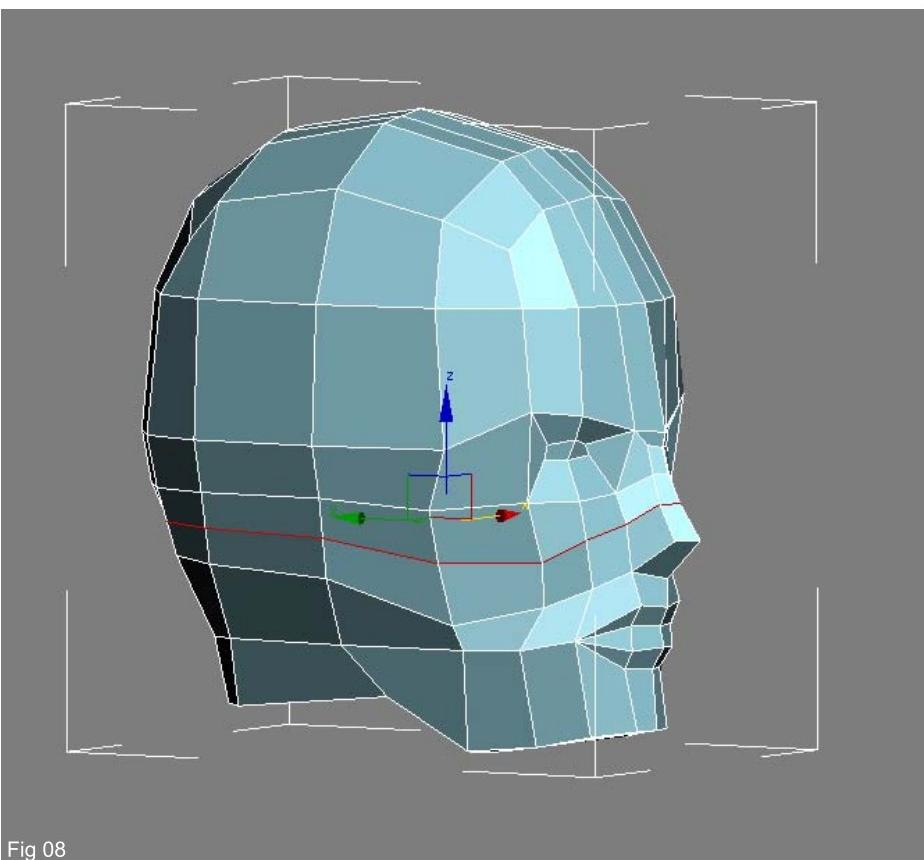

Fig 08
8. To help refine the cheek bone and nose shape use the "Ring / Connect" tools to add in a further cut around the head as shown in red in Fig08.
10. Now we are working purely on the left side of the head select the poly's highlighted in red in Fig10 and use the "Cut" tool to make two horizontal cuts joining the middle verts. This will help create a more convincing socket shape for the eye and remove the sharp angle apparent in Fig08.